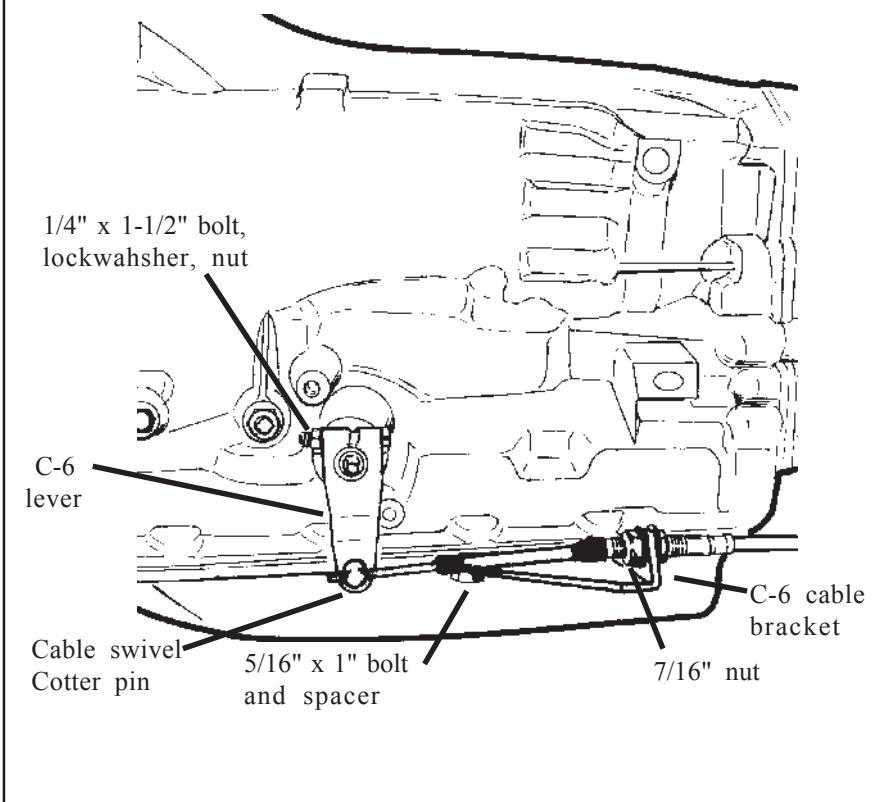
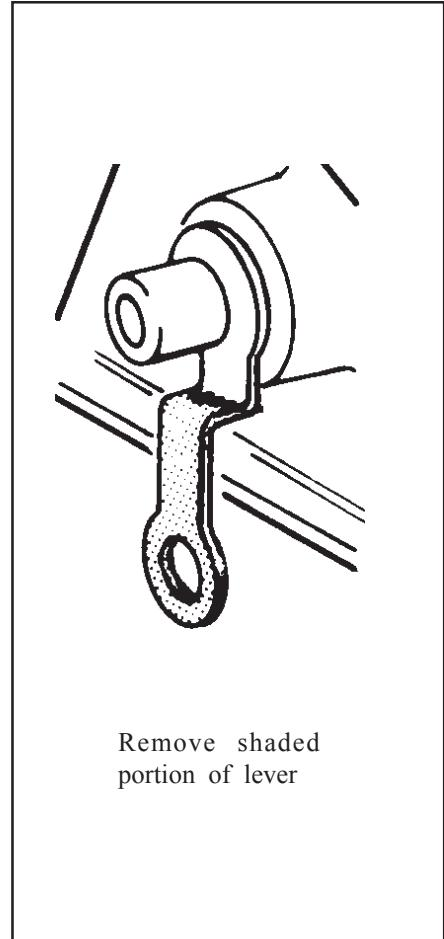

Figure 1
Figure 2
STEP 3. Install the **B&M** selector lever, See **figure 1**. Note: The **B&M** lever must point downward for proper operation. If the stock shift lever on your transmission points down, you will have to remove the lower part of the stock arm by cutting it off to clear the **B&M** lever, (See **figure 2**). Install **B&M** selector lever onto shift shaft of transmission. Align selector lever so when it points straight down it travels equal arcs in both directions from center, then tighten 1/4"-20 x 1 1/2" pinch bolt and nut. The lever should travel smoothly from front to back
STEP 4. Remove the two transmission oil pan bolts from the left rear corner of the oil pan. Install cable bracket in position, (See **figure 1**). with two spacers between the pan and bracket. (If your transmission is equipped with a cast aluminum oil pan, these spacers can be omitted.) Install the two 5/16-18 x 1.00" bolts supplied and tighten 12-13 ft. lbs. Do not overtighten as this can damage pan gasket.